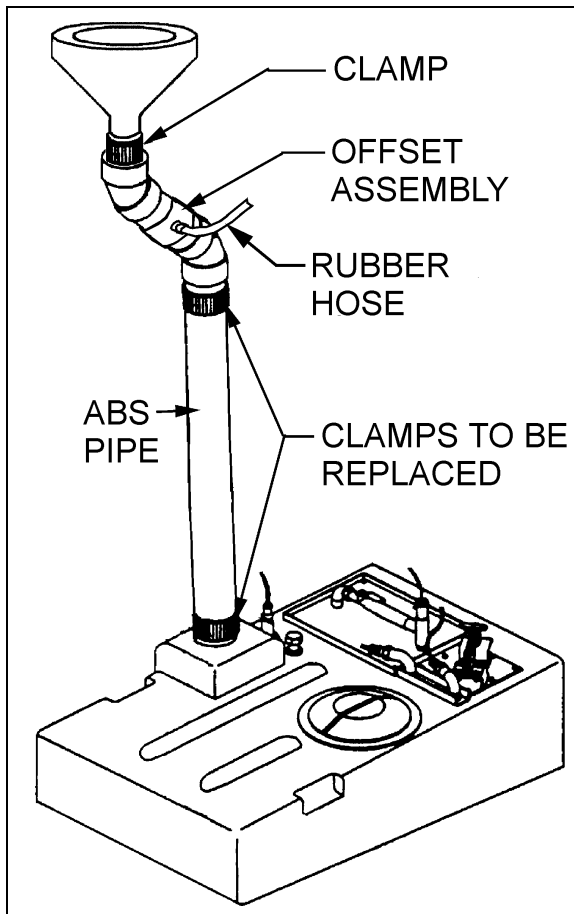

FIGURE 2: DRAIN PIPE (BEFORE MODIFICATION)
2. Removal of garbage bin gives access to the offset assembly through an opening in the lavatory wall. Locate through this opening the rubber hose used for toilet bowl ventilation (refer to figure 2).
4. Open engine compartment rear door and engine compartment R.H. side door. Unfasten ABS pipe clamp screws, remove clamps and ABS pipe as well as offset assembly (refer to figure 2).
1. Open engine compartment rear door and engine compartment R.H. side door. Unfasten ABS pipe clamp screws, remove clamps and ABS pipe (refer to figure 2 and 3).